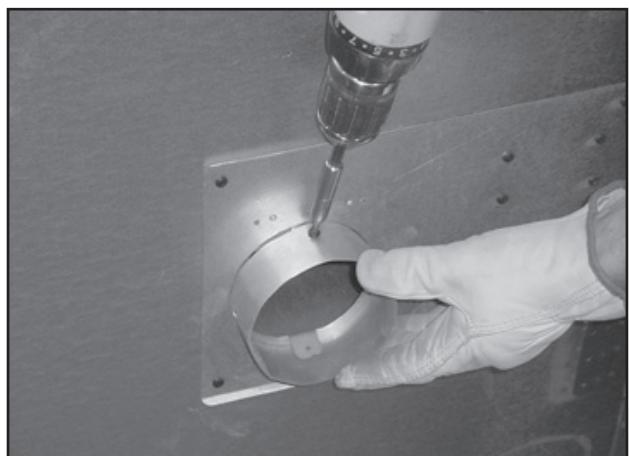

Figure 3.19 Attaching Outside Air Kit Collar
- Position ring over tabs and screw in place. See Figure 3.19.